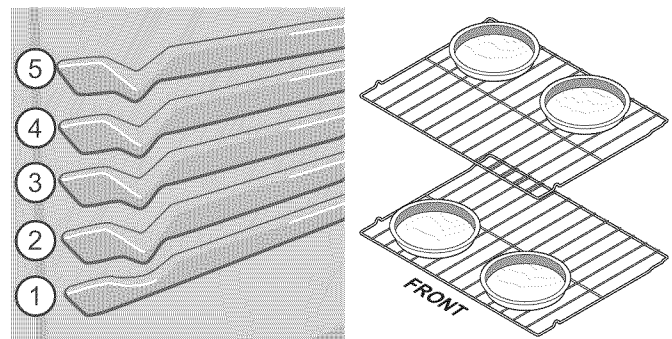

Figure 28: Rack positions and pan spacing recommendations
- For best results when baking cakes using 2 oven racks, place racks in positions 2 and 4 and use the **CAKES** feature on page 19. When baking using 2 oven racks, position bakeware as shown in Figure 28. Allow at least 2 inches (5 cm) of space between bakeware for proper air circulation.